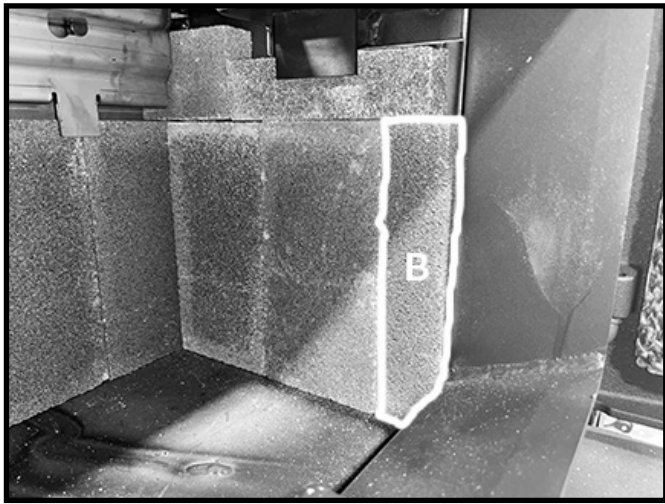

Figure 15: Final side wall firebrick in position.
1. Place a "B" firebrick under the "E" firebrick and against the side wall of the firebox. Figure 15.